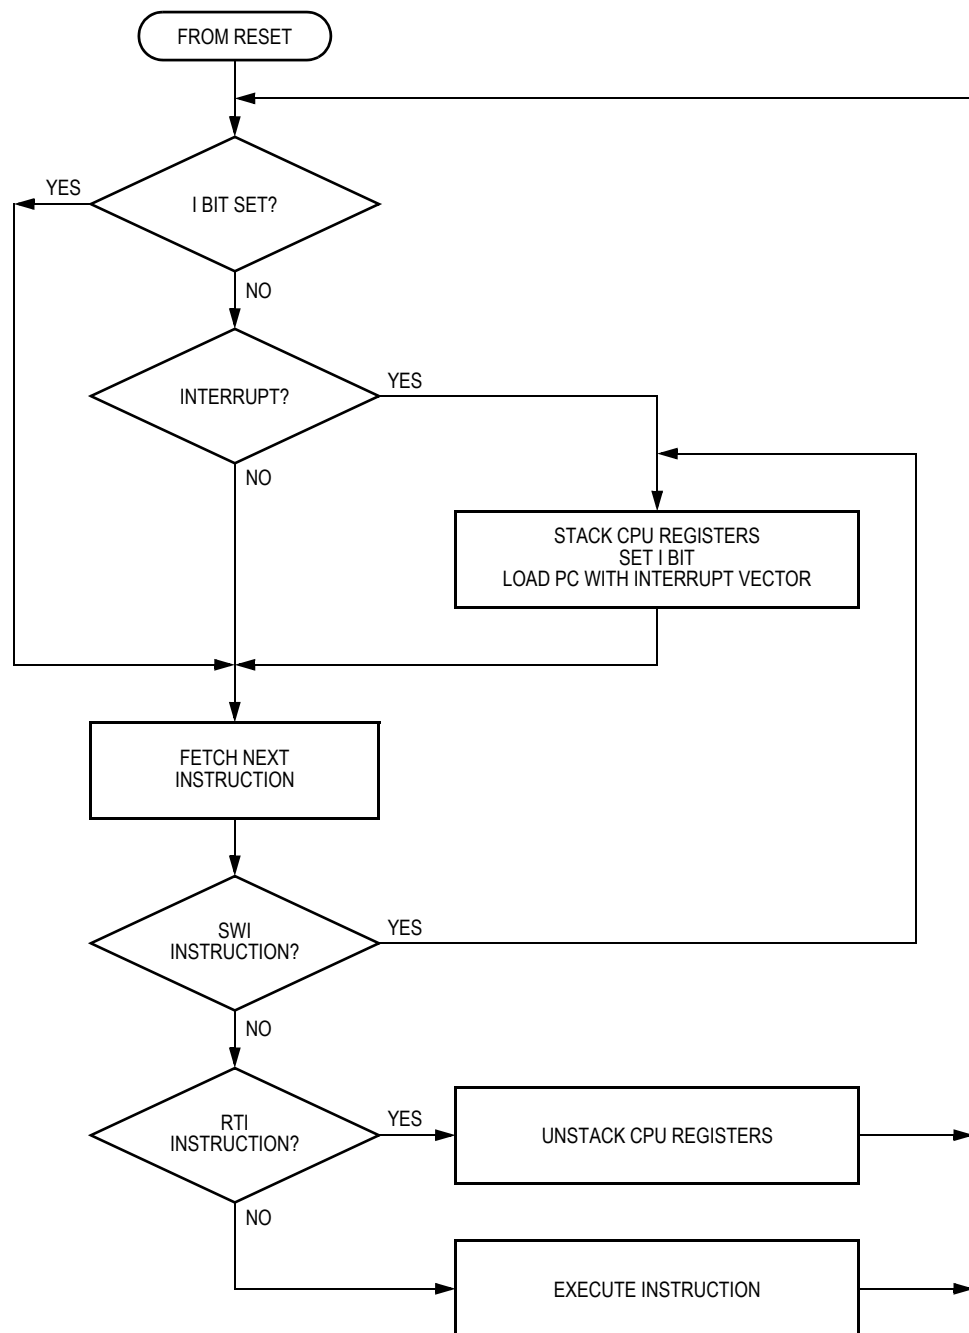

Figure 16-3. IRQ Interrupt Flowchart
NOTE: *The interrupt mask (I) in the condition code register (CCR) masks all interrupt requests, including external interrupt requests. See Figure 16-3.*